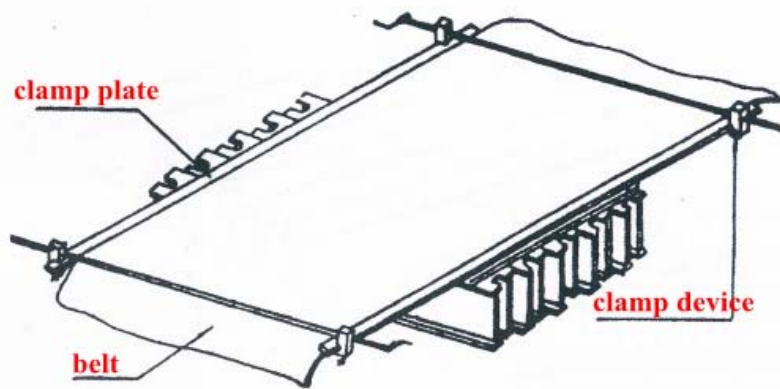

Fig. 7
(3) After preprocessing and filling of rubber, the belt joint part of conveyor belt is placed on the lower electrothermal plate. And the both sides of the belt are fixed by clamp plate and clamp device, based on the aligning of central axis. See figure 7